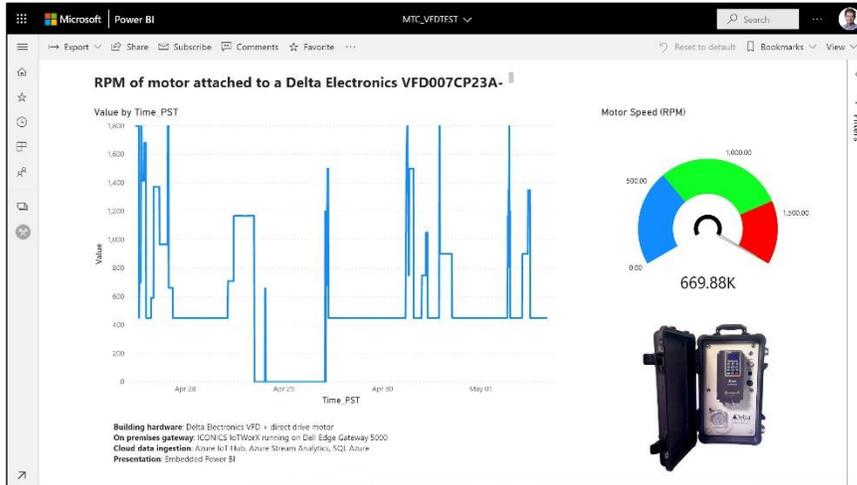

Figure 8 PowerBI.com report
However, it is useful to have a real-time dashboard with the data displayed in a chart. Figure 8 shows a Power BI report pulling the data from the SQL table:
3. Specify the chart type (on the left in Figure 8 is a Line Chart, on the top right a third party Power BI widget downloaded from the store)